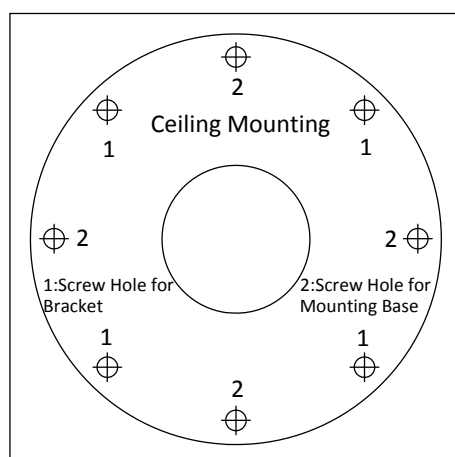

Figure 6-28 Drilling Holes in the Wall
2. Drill holes in the wall according to the No.2 holes of the drill template. Refer to the Figure 6-28.